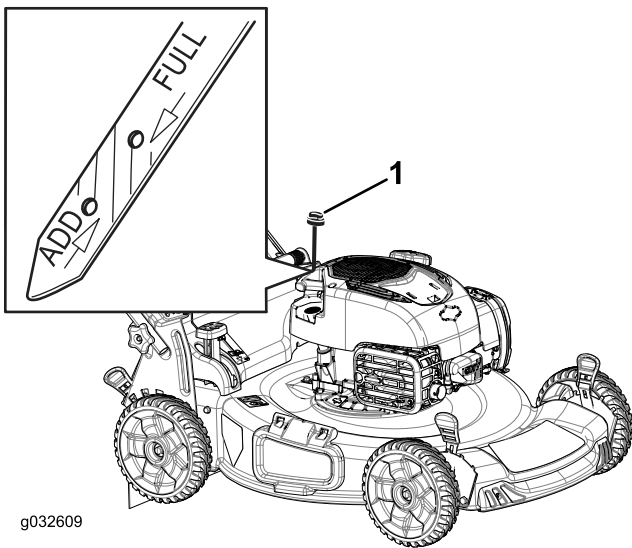

Figure 31
2. Remove the dipstick (Figure 31).
4. **Slowly** pour oil into the oil-fill tube until the oil level reaches the **Full** line on the dipstick (Figure 31). **Do not overfill.**